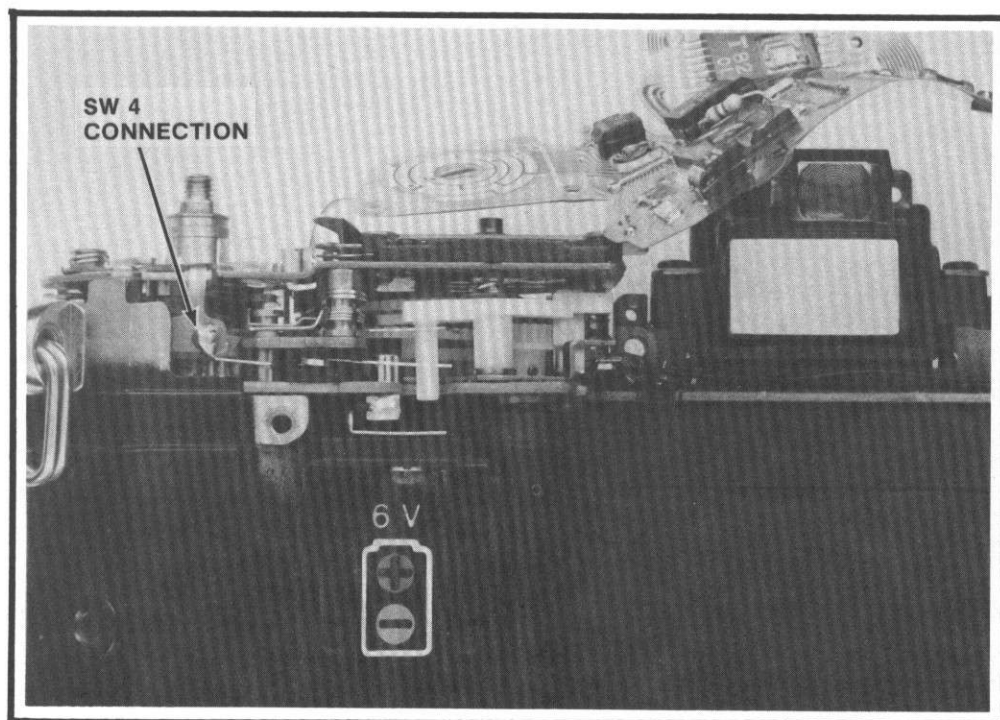

Figure 63
15. Unsolder the SW4 wire contact from the front section of flex, Fig. 63.